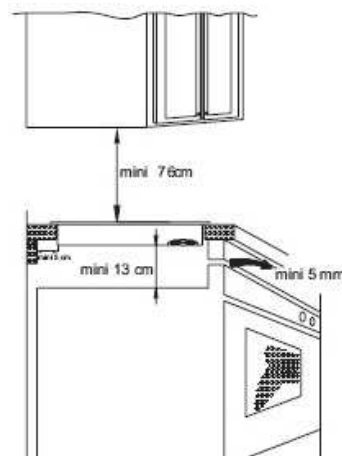

Fig. 3
3) Owing to the high temperature inside the induction cooker, make sure good ventilation is provided in order to assure its normal operation (see Fig.3).